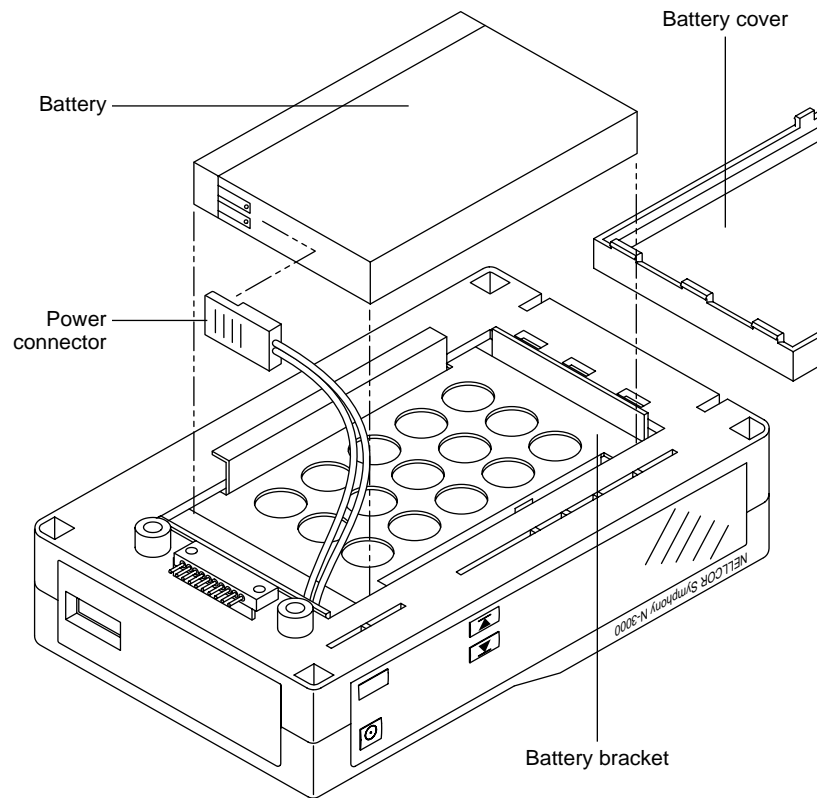

Figure 6-2: Removing the Battery
6. Lift the battery out of the battery bracket, as shown in Figure 6-2. It may be necessary to use the edge of a flat tip screwdriver to gently pry the battery loose.